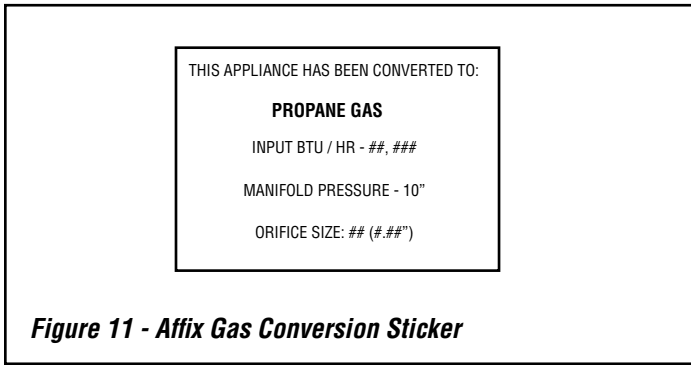

Figure 11 - Affix Gas Conversion Sticker
Step 17. Affix the supplied gas conversion sticker next to the rating plate label stating this unit has been converted to propane gas. See **Figure 11**.